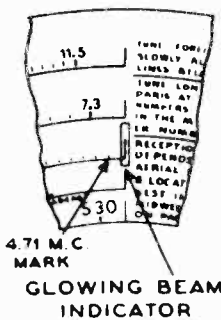

Fig. 8. Dial Calibration
**EQUIPMENT REQUIRED:** (1) Signal Generator, having a fundamental frequency range covering the tuning and intermediate frequencies of the receiver. Philco Model 677 Signal Generator which has a fundamental frequency range from 115 to 36000 K. C. is the correct instrument for this purpose; (2) Output Meter, Philco Model 626 Circuit Tester incorporates a sensitive output meter and is recommended; (3) Philco Fibre Handle Screw Driver, Part No. 27-7059 and Fibre Wrench, Part No. 3164.
- Loosen the set screws on the shaft coupling of the tuning condenser. Then turn the tuning condenser until the plates are in the maximum capacity position. Now turn the dial until the glowing beam indicator is on the Index Line at the low frequency end of range 3. (See Fig. 8). With the dial and tuning condenser in this position tighten set screws.
- Turn the tuning condenser control until the indicator is on the 4.71 M. C. mark of range 3. (See Fig. 8.)